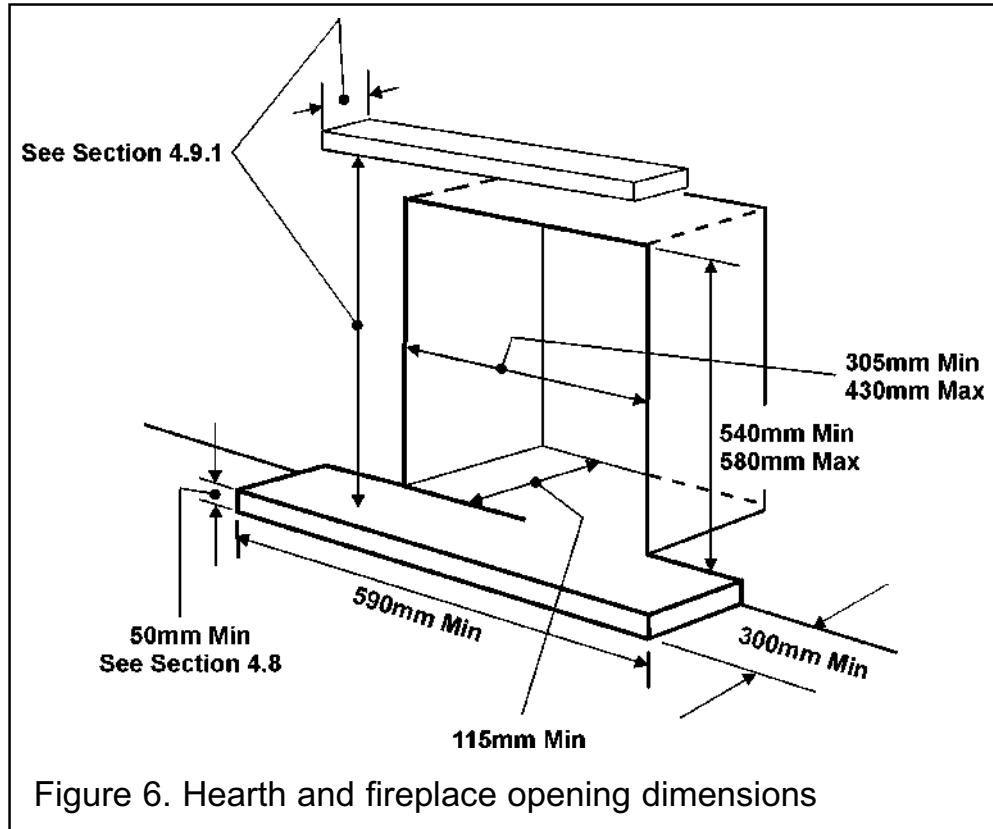

Figure 6. Hearth and fireplace opening dimensions
To a fireplace complete with hearth as shown in figure 6. Chair brick removal may not be required providing at least 50mm clearance is available from the flue outlet to any fireplace component.
- It is recommended that a hearth should be installed as in section 4.8 (See figure 6).